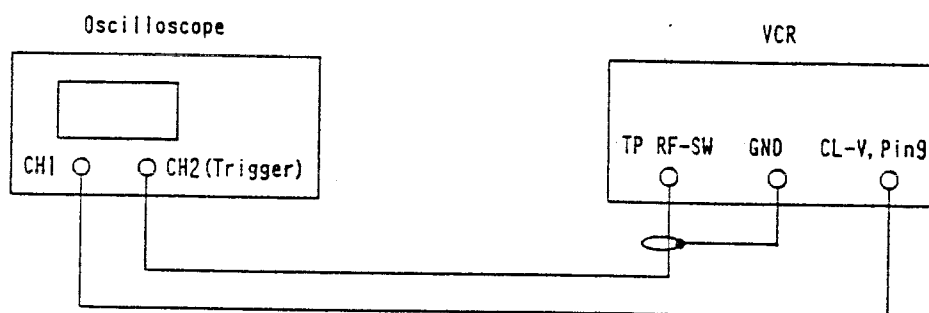

Fig. 2-10
1. Connect equipment as shown in Fig. 2-10.